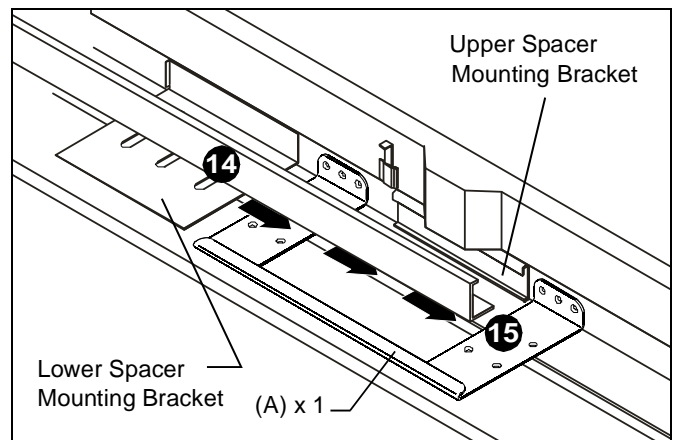
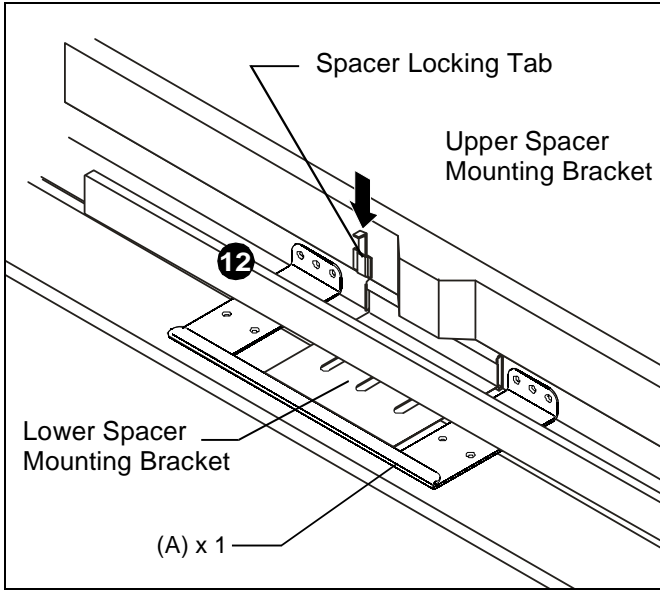

Figure 9
Figure 10
14. Orient lower spacer mounting bracket as shown in figure below. (See Figure 9)
15. Slide lower spacer mounting bracket into lip of retro bracket (A) and lip of upper spacer mounting bracket. (See Figure 9) and (See Figure 10)